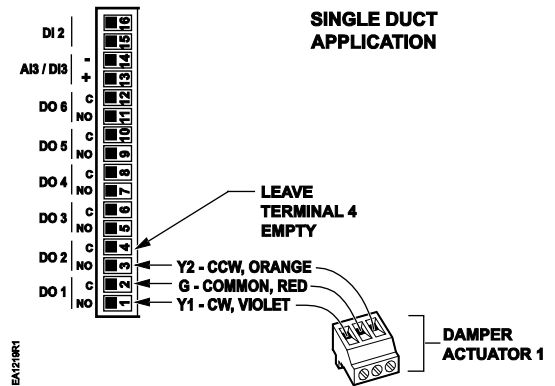

Figure 9. Single Duct Application.
2. Plug pre-terminated actuator connector into DO 1 and 2, using terminals 1, 2, and 3 (Figure 9). Connector can only be installed one way with violet wire in terminal 1.